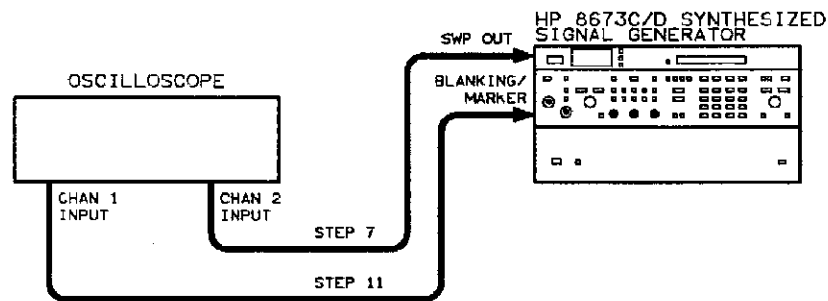

Figure 5-60. Sweep Out, Blanking/Marker, and Frequency Reference Adjustments Test Setup
7. Connect the Signal Generator to the oscilloscope's channel 2 input as shown in figure 5-60.